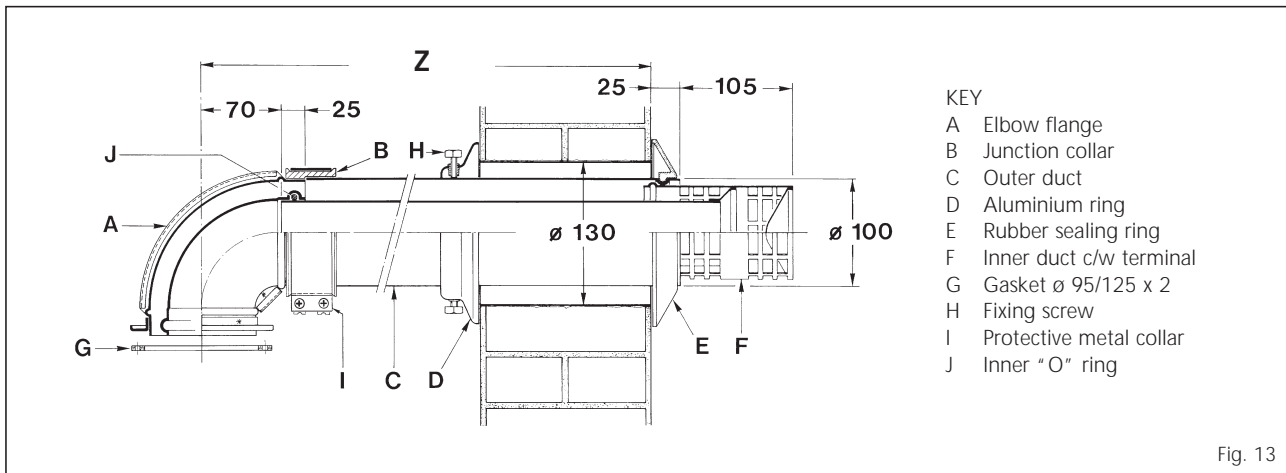

Fig. 13
- Cut the hole in the wall for the flue/air duct. The diameter should not be less than 100 mm (4 in) and must be horizontal. If the hole is not accessible from the outside of the building, its minimum diameter should be sufficient to allow the insertion of the wall liner (130 mm - 5 1/4 in diameter) which will be sealed with mortar. Refer to fig. 13. (The wall liner is available as an optional extra).
Wall thicknesses up to 0.5 m (19 in) only, Hole diameter sufficient to accept wall liner. 130 mm (5 1/4 in) if optional kit is used fig. 13.
- Fit the rubber sealing ring into the swaged groove in the air duct as shown in fig. 13. Ensure that it is the correct way around and spray the outside surface with talcum powder or soap solution to reduce friction.
- Fit the rubber sealing ring into the swaged groove in the air duct as shown in fig. 13. Ensure that it is the correct way around.
- With reference to fig. 13, slide on the aluminium reten-